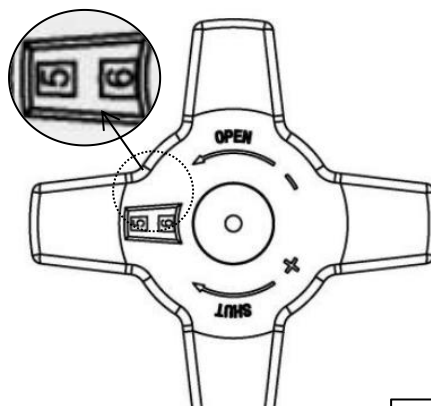

Figure 2
2. Open the valve to the preset opening (see Figure 2).